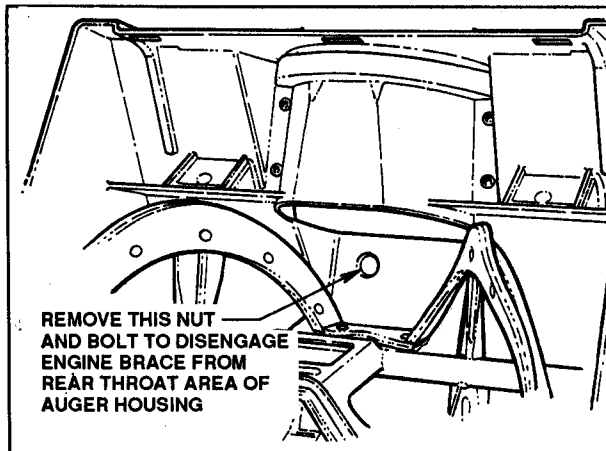
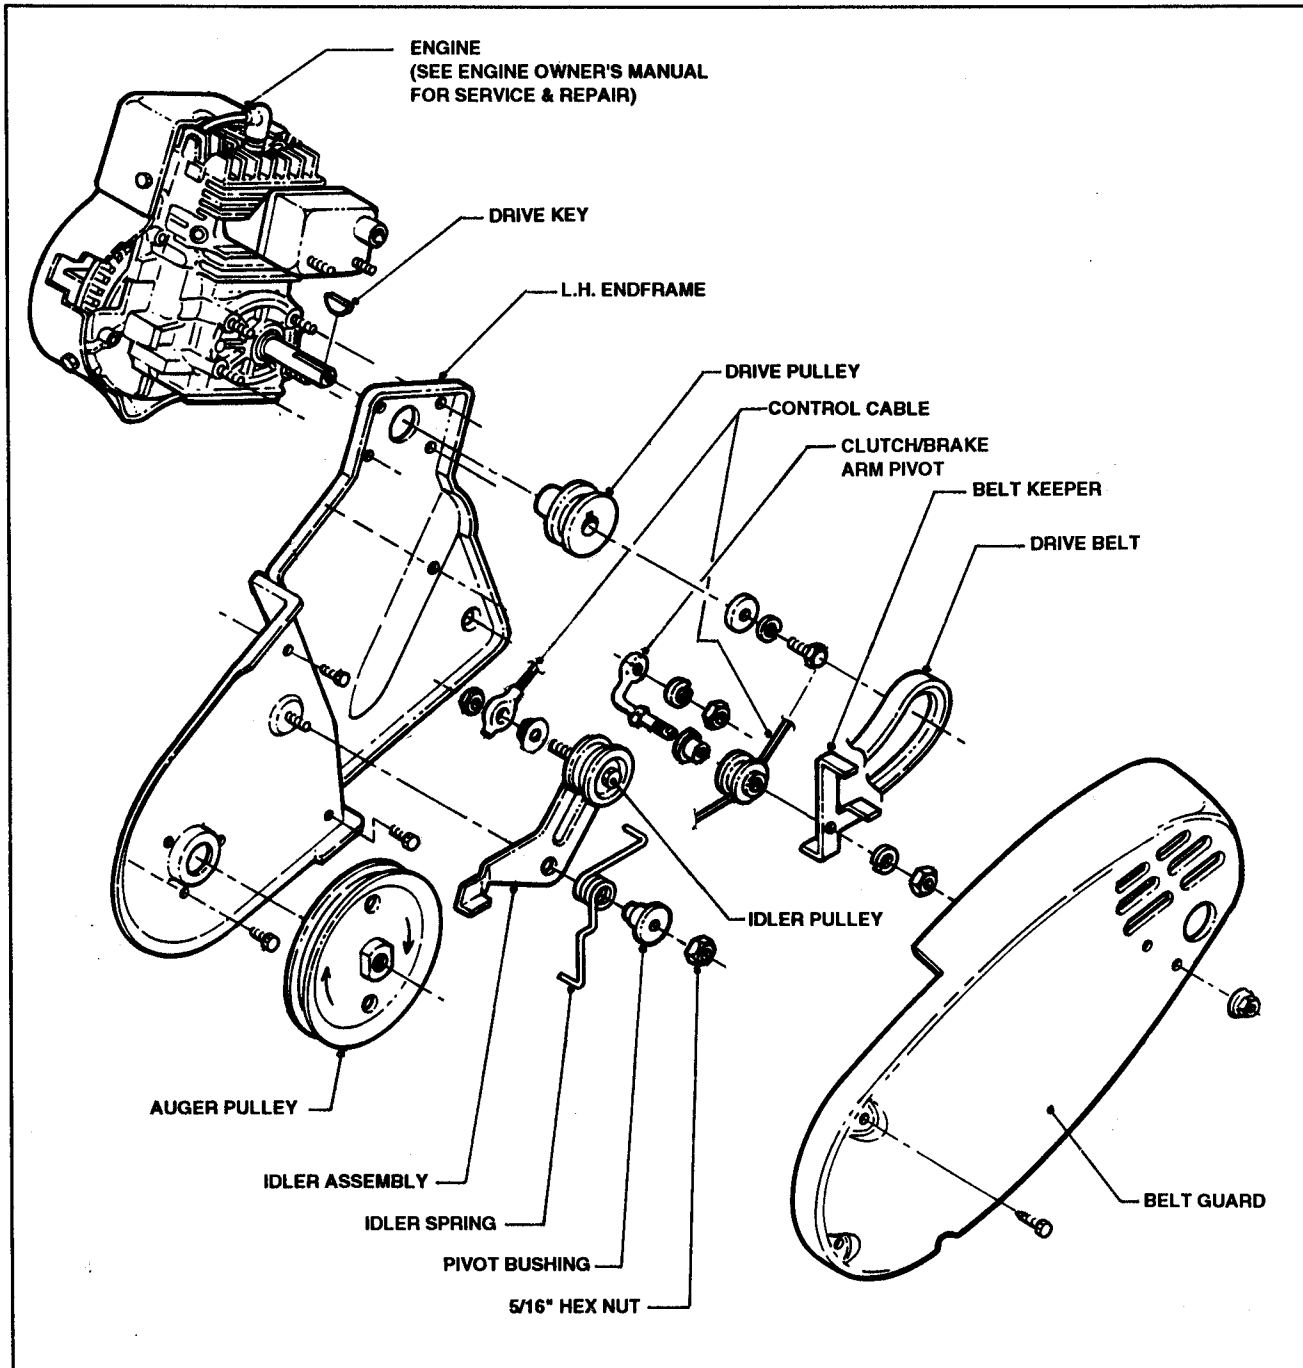

FIGURE 7.17
FIGURE 8.1
- (7) Remove Drive Belt from Large Auger Pulley by pressing on Idler-Arm/Pulley to raise Idler-Arm Brake OFF Belt at the Auger Pulley. Use free hand to slip Belt off Auger Pulley. Leave Belt on Engine Pulley.
- (8) Unscrew Auger Drive Pulley from Auger Shaft by holding Auger with left hand and rotating Auger Pulley Clockwise with an adjustable wrench in right hand.
- (9) Remove six (6) small Auger Shaft Bearing Retaining Screws from left and right metal Endframes. See Figure 8.1. Remove four (4) Auger Housing Endframe Screws from machine. Remove two (2) screws which attach right metal Endframe to the metal Engine Brace. Remove nut and bolt which attach Engine Brace to rear throat area of Auger Housing. See Figure 7.17.
Shown below in Figure 8.1 are those components which make up the Drive System Group. Only those components which are worn, broken or otherwise unserviceable should be replaced as new parts when doing a complete overhaul of the Drive System.